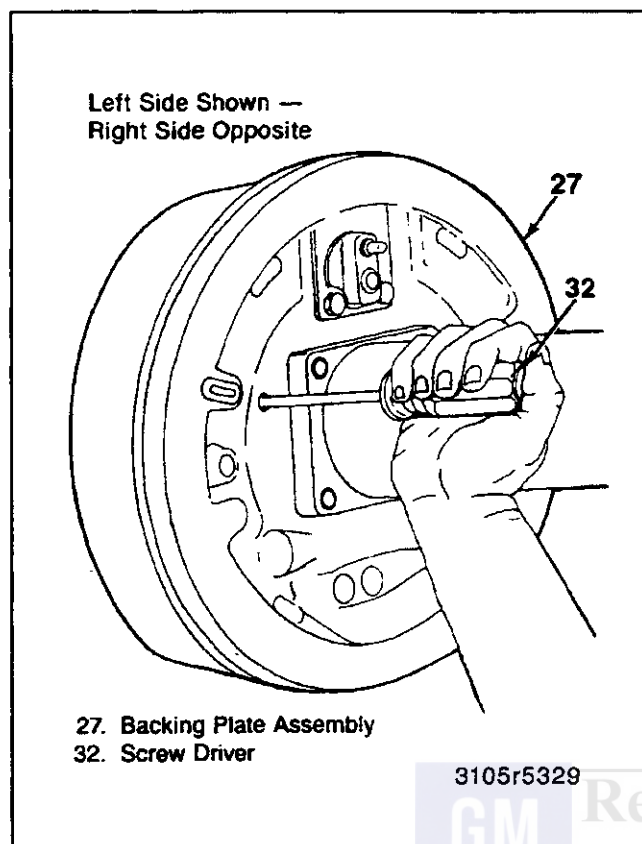

Figure 2—Pushing the Parking Brake Lever Off its Stop
- C. Remove the access hole plug (25) from the backing plate and insert a screwdriver through the hole to push the parking brake lever off its stop (figure 2).
6. Actuator spring (1) and adjuster actuator (3).
- A. Raise the lever arm of the actuator (3) until the upper end is clear of the slot in the adjuster screw (12) (figures 2 and 3).